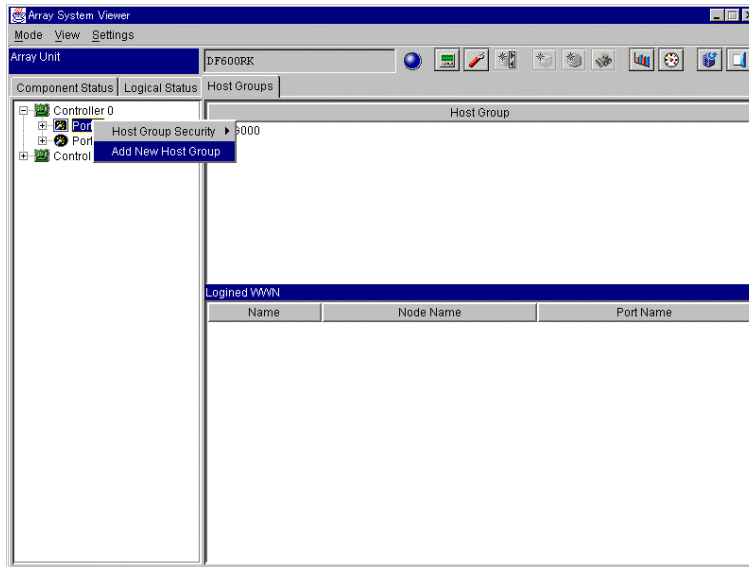

Figure 3.3 Adding a Host Group in the Context Menu
1. Select **Port A** or **Port B**, and right-click the icon of the selected Port (a context menu appears). In the drop down menu, select **Add New Host Group** (see Figure 3.3).